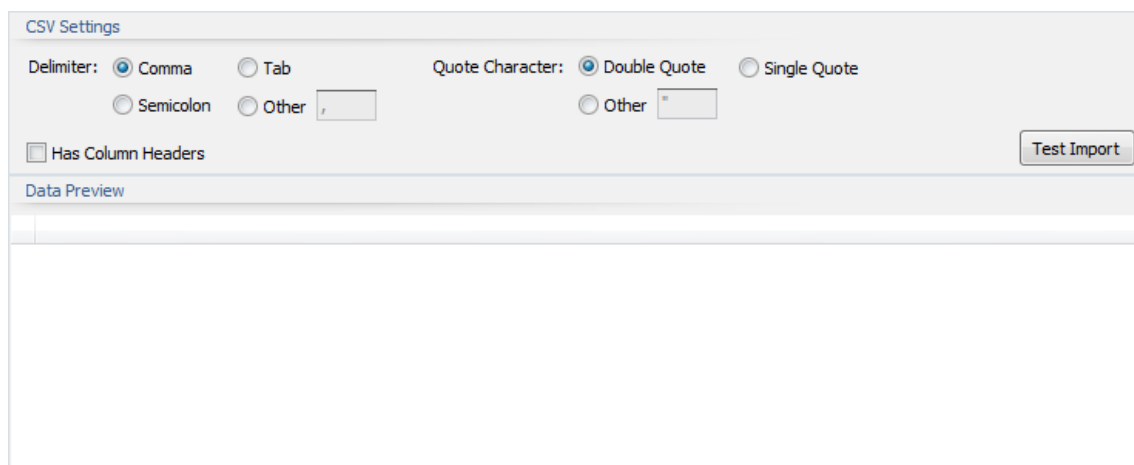

Figure 94
4. The CSV settings dialog window will appear (Figure 94). Click **Test Import** to see if the CSV file will be imported correctly.